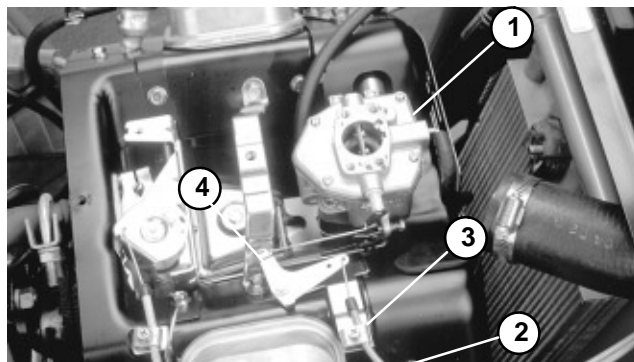

Figure 16
6. Release choke cable from clamp securing it to the engine. Disconnect choke cable from the choke pivot lever on the engine (Fig. 16).
3. Connect choke cable to the choke pivot lever. Attach cable to engine with clamp. Make sure not to tighten cap screw securing clamp and cable to engine (Fig. 16).